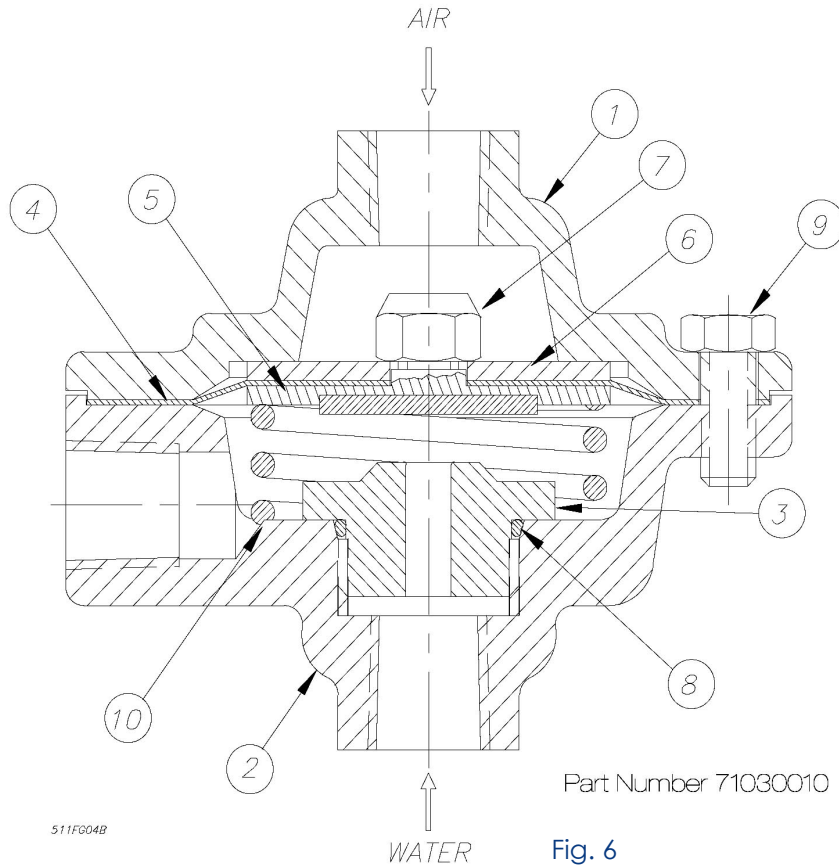

Fig. 6
Refer to Fig. 6
Refer to Figs. 6 and 7
1. Close the main valve controlling water supply (Fig. 6) to the Dry Pipe Valve and close off the air/nitrogen supply to the sprinkler system. Close valve A (Fig. 6).
2. Drop pressure in the system by opening the 1/4" globe valve, valve E (Fig. 6.), and remove the Actuator from the system.